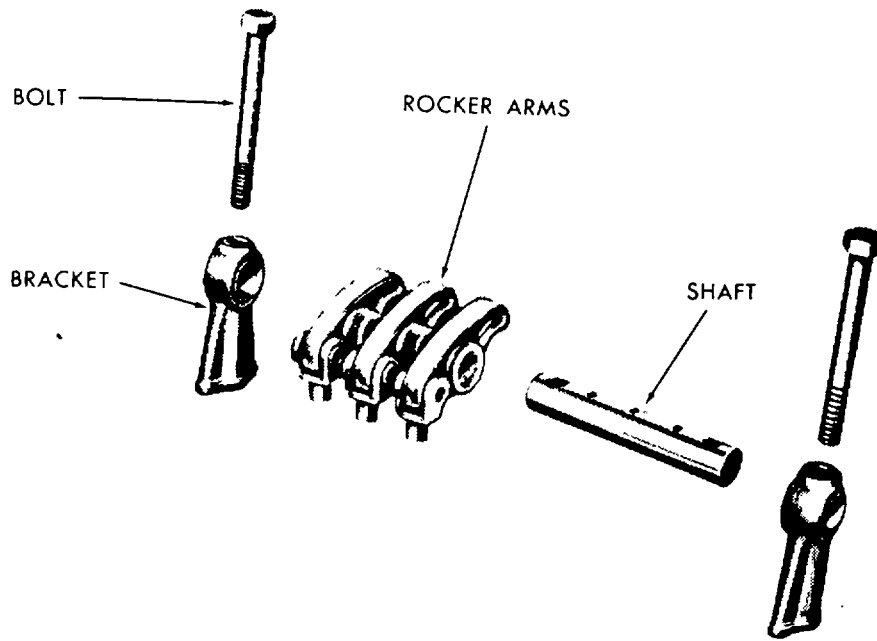

Figure 5-27. Rocker Arm Shaft Bracket.
(4) Remove two bolts (Figure 5-27) which secure rocker arm shaft brackets to the cylinder head. Remove brackets and shaft.
- (1) Apply clean engine oil to rocker arm shafts.
- (2) Install rocker arm and shaft assemblies as illustrated in Figure 5-27.
- (3) Tighten rocker arm shaft bracket bolts to 50-55 lb ft torque. After tightening bolts, check for some side clearance to prevent binding between rocker arms.
- (4) Align fuel pipes and connect them. Tighten pipe nuts to 12-15 lb ft torque.
- g. Lubricate head bolt threads and under side of each bolt head with a good sealing compound and tighten cylinder head bolts in numerical sequence as illustrated in Figure 5-27. Tighten bolts to 170-180 lb ft torque.